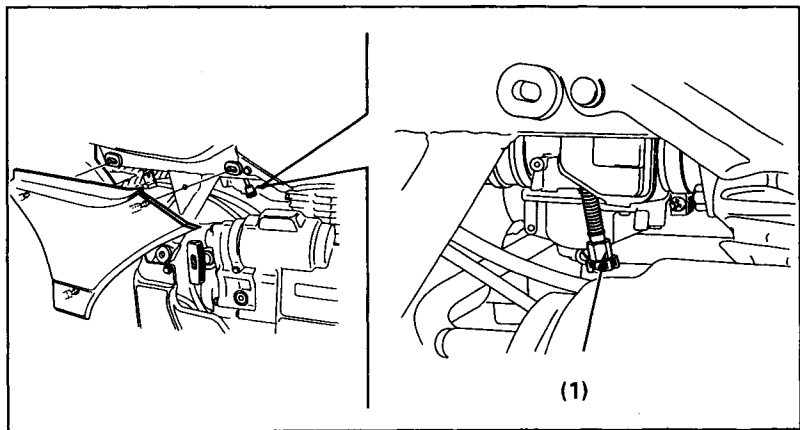

Fig. 4-9 (1) Throttle stop screw
Before adjusting the idle speed and air-fuel mixture, unsnap the right side cover. (Fig. 4-9)
2. Adjust idle speed and turning the throttle stop screw (Fig. 4-9).